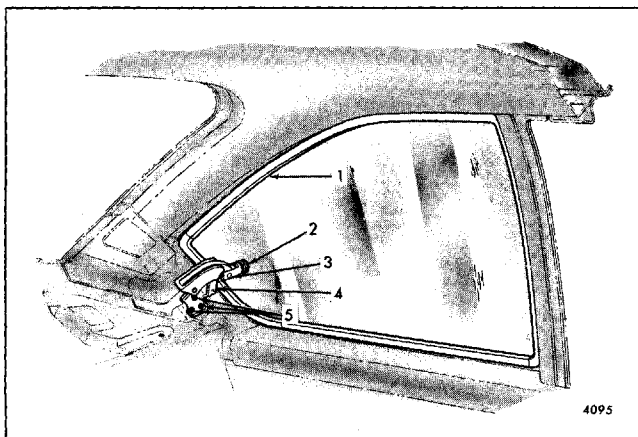

Fig. 6-37-Optional Swing-Out Quarter Window - H-77 Style Shown (X-17,27 Styles Similar)
2. Remove three screws which secure latch assembly to the body (Fig. 6-37). On X styles, spacers may have been installed and should be removed.
2. Using a small diameter flat end punch, remove the latch to support attaching roll pin (Fig. 6-37).